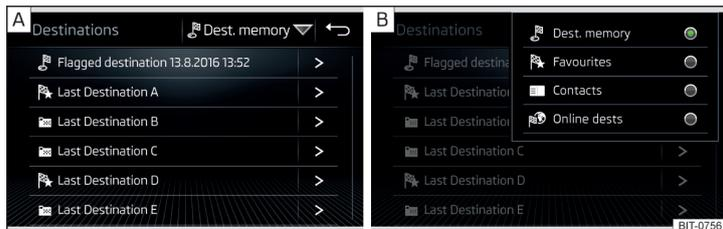

Fig. 205 Select list of stored destinations / categories of saved destinations
▶ Tap the function surface  » Fig. 205 - A tap and choose one of the following saved destination categories » Fig. 205 - B.